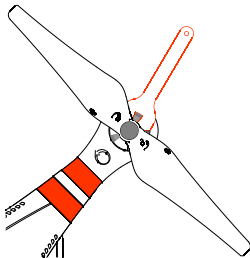

Figure2-3
- (Figure 2-3) Keep the motor deadlocked in place with the assistant wrench (or one hand) and remove the propeller according to the un-fastening instructions.